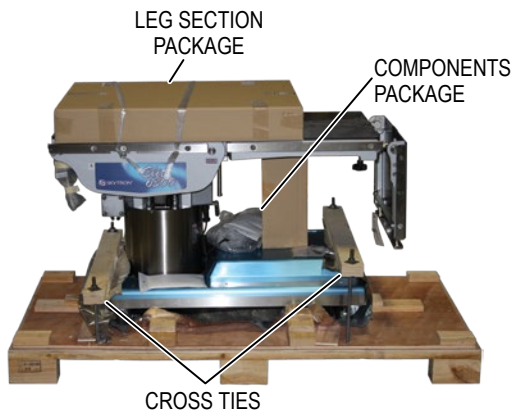

Figure 2. Table and Components (As Shipped)
1. Remove the Warning Label / Parts Package, Power Cord Package, and Pendant Control from the top of the service access cover and set aside (Figure 2).